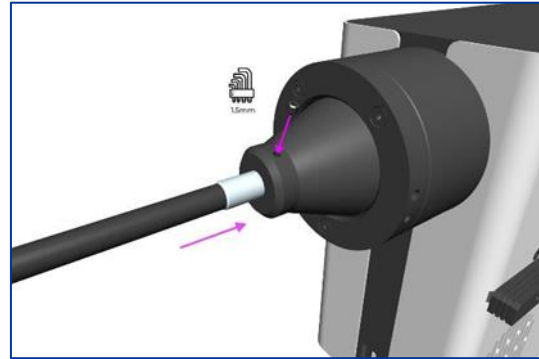

Figure 15
2. While holding the liquid light guide securely in place, use the 1.5 mm Hex Key to gently fasten retention grub screw found at the output of the Light Source (Figure 15).